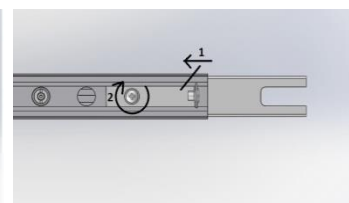

Fig.6
- 8) Slide the installation piece no. 3, screw in a no. 4 M4 (Fig. 6)